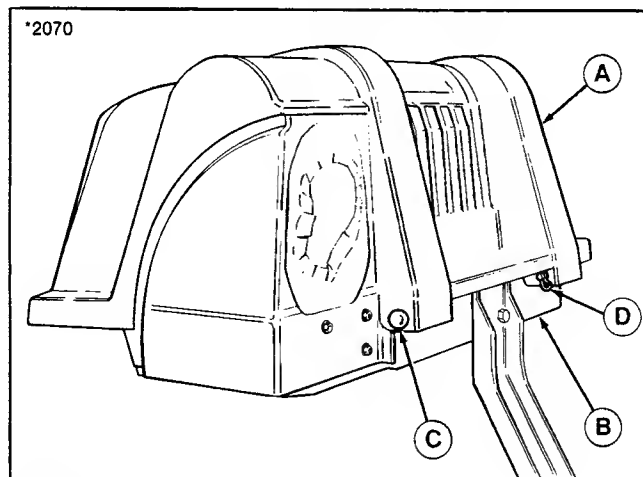

Figure 6.
9. Reinstall grass catcher cover (A, figure 6) to support (B) and secure with clevis pins (C) and clips (D).